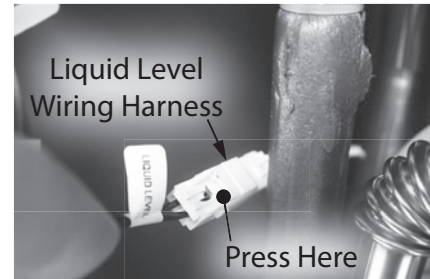

Figure 234 - Liquid level wiring harness location
- 19 Trace the black wires from the condensate trap to the wiring harness marked "LIQUID LEVEL" and disconnect them. See Figure 234.